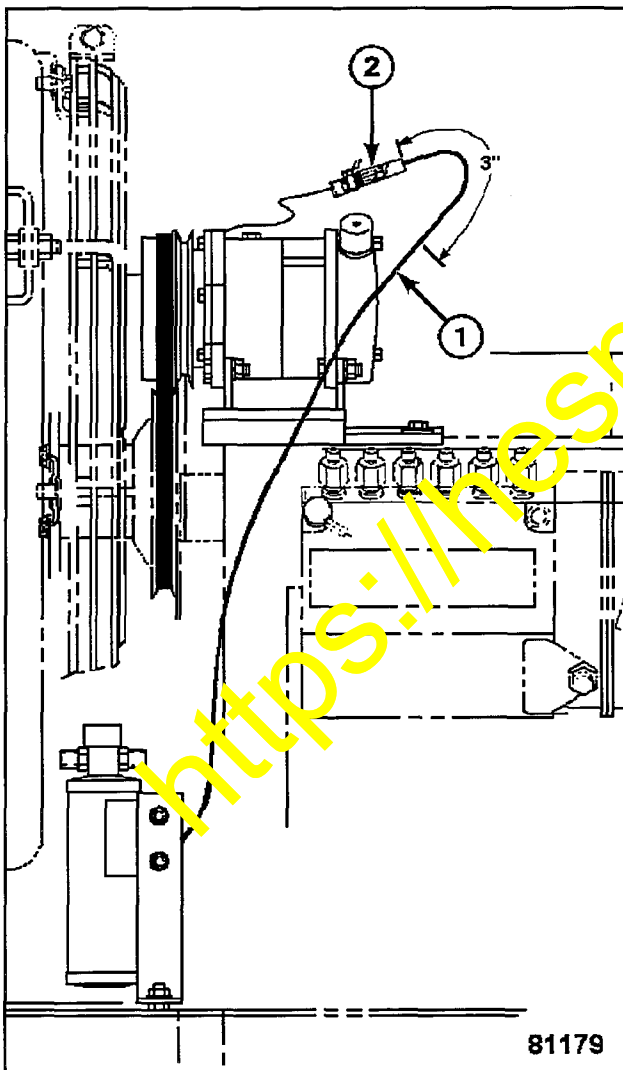
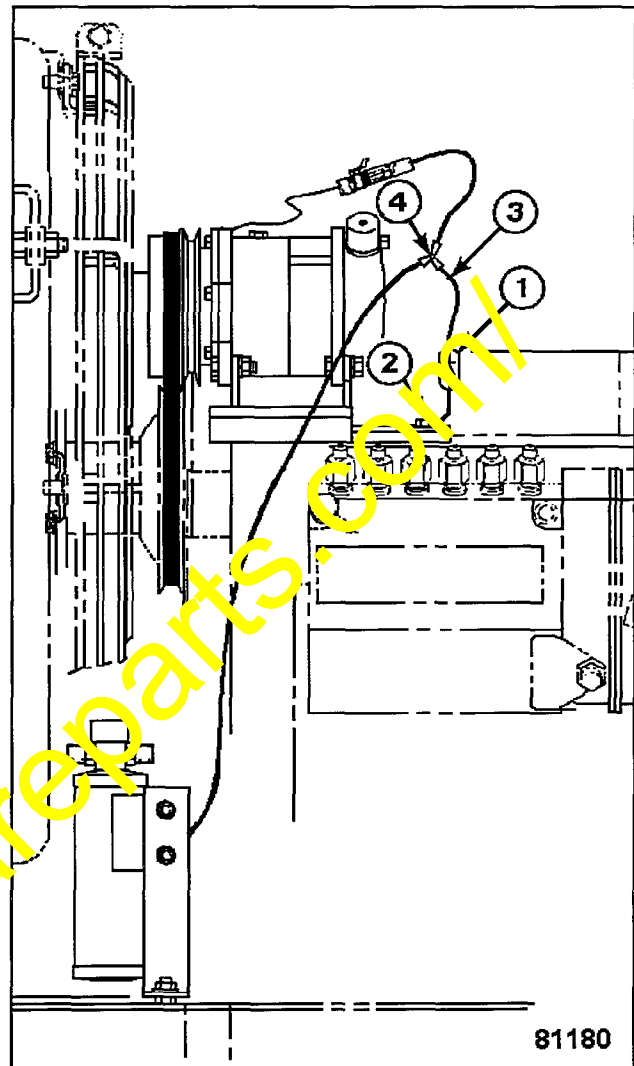

Figure 1
Figure 2
1. Locate 1433081H91 electrical power cable (1, Figure 1) connected to air conditioner compressor.
2. Cut cable approximately 3" from connector (2); strip insulation back 1/4" from cut ends.
3. Clean area around compressor mounting bolt (2, Figure 2) of dirt, rust and paint. Attach ring terminal end of 1437616H1 diode assembly (1) to the mounting bolt (2). Use lubriplate or other electrical grease.